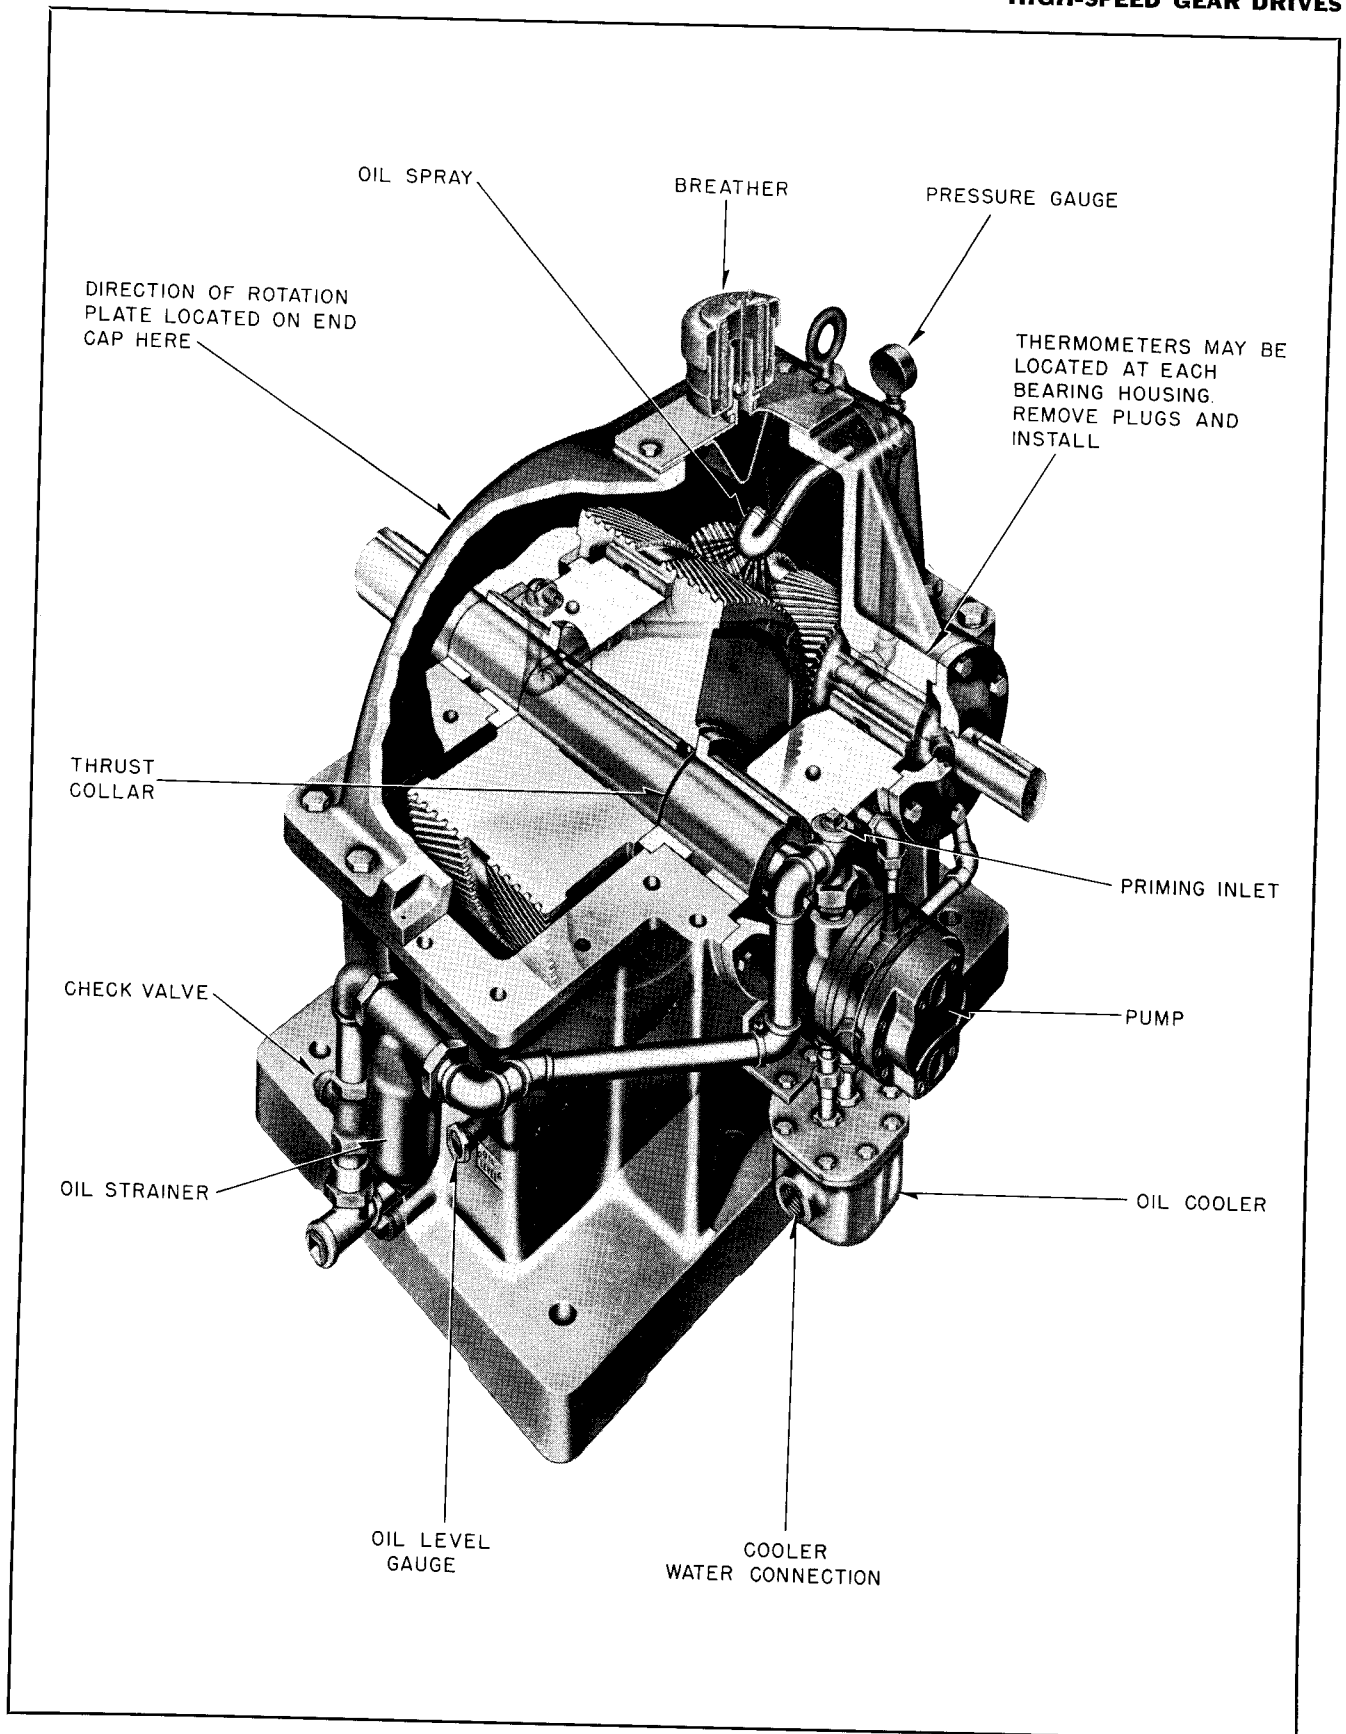
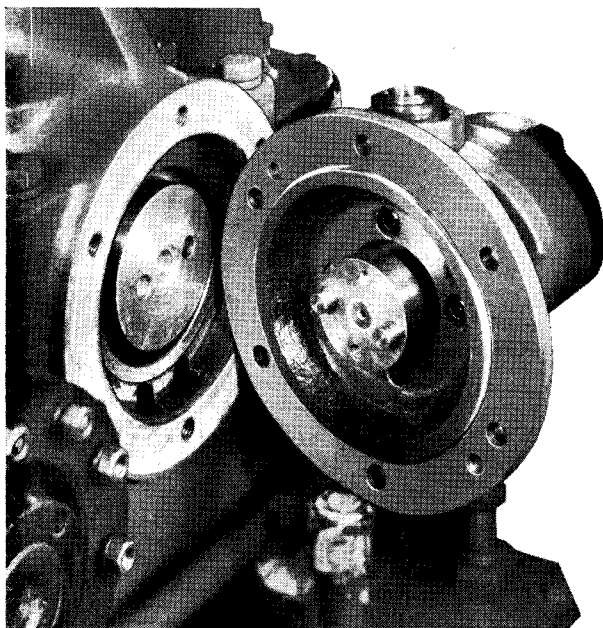

FIG. 4. Cutaway View of Type SU High-Speed Gear Drive
FIG. 5. Pin Type Coupling of Pump to Low-Speed Shaft
4. Prime the oil pump to avoid delay in the delivery of oil to the bearings and gear mesh. The priming inlet is shown in Fig. 4. In cases where a thermometer is installed at this point, it may be removed to permit priming and then replaced afterward. Ordinarily the pump does not require manual priming, but in case of long shut-downs it is considered good practice to prime the pump before starting the unit. The priming inlet is supplied with each drive.
For uni-directional drives, the lubricating pump (see Fig. 4) is generally mounted on the low-speed end cap and is connected to the low-speed shaft by means of a pin type coupling (see Fig. 5) at the end of the low-speed shaft opposite the extension. The pump may be directly connected to the low-speed shaft or it may be connected through a set of gears (see Fig. 8) to obtain proper pump operating speeds.